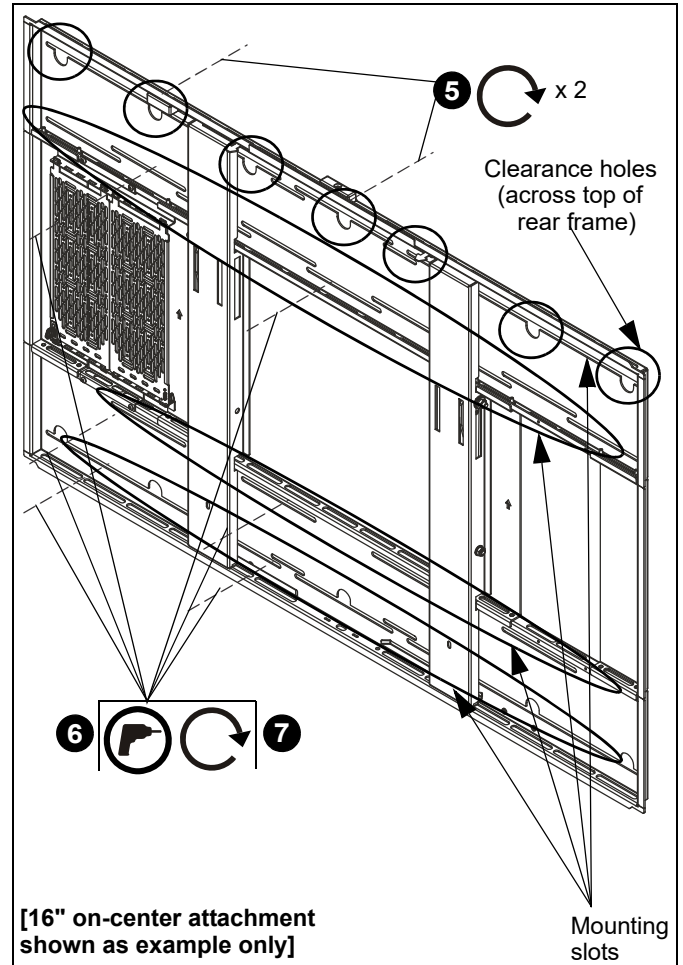

Figure 6
4. Hang rear frame, aligning upper mounting slot clearance holes over fasteners and adjust side-to-side for proper location. (See Figure 6)
6. Drill six remaining pilot holes (see Table 1 for size) at attachment locations and follow fastener information (appropriate for wall type) located in Table 1. (See Figure 6)